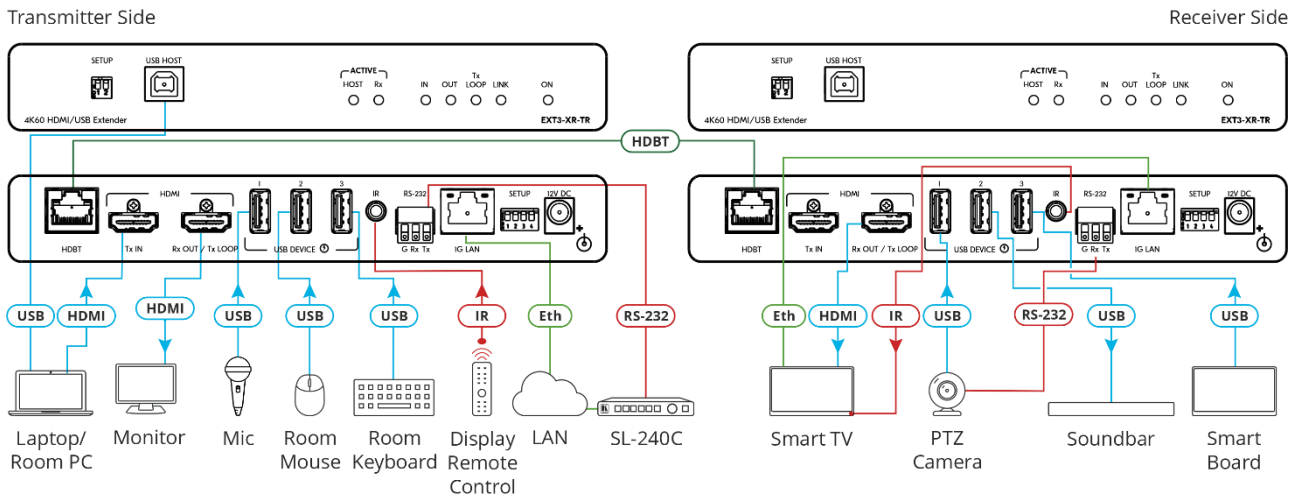

Figure 5: Connecting to EXT3-XR-TR
To connect EXT3-XR-TR as illustrated in the example in Figure 5:
10. Connect the power adapter to **EXT3-XR-TR** and to the mains electricity (not shown in Figure 5).